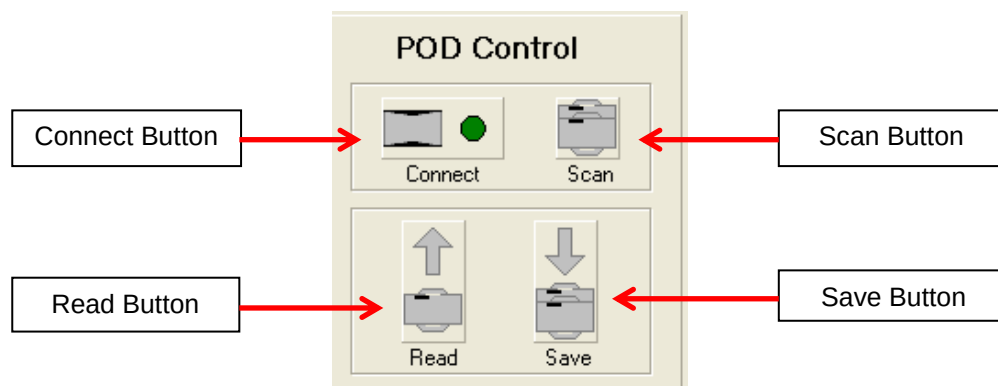

Figure 2 Pod Control
2.2 Pod Control (see Figure 2)